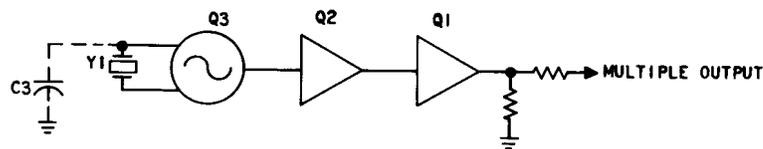

Fig. 2—Clock Unit—Functional Diagram
2.04 The clock circuit of the 911M Multiclock Unit consists of three transistorized stages (Fig. 2). The first stage is a crystal-controlled blocking oscillator composed of transistor Q3 and associated circuitry. Oscillators in the frequency range of 4.000 to 5.599 kHz use an 1800 pf capacitor (C3), and oscillators in the 5.600 to 7.699 kHz range use a 1200 pf capacitor to coarse-tune the oscillator to the vicinity of the crystal resonant frequency. This prevents oscillation at a harmonic frequency.